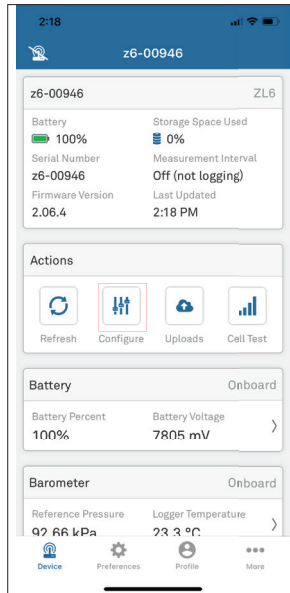

Figure 10 Select Configure
4. Select **Configure** on the Actions panel (Figure 10).